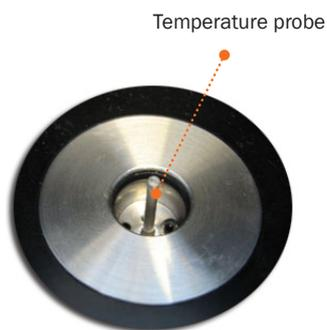

Figure 4.6.1a
8. If aggressive solution or drugs have been used it is possible to disconnect the temperature probe (Figure 4.6.1a below) and take out the chamber disc. Clean both with double distilled water, and dry with a paper towel.